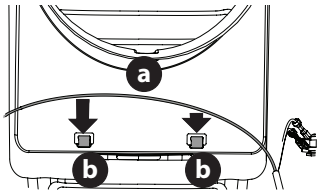

Fig. 12
- Secure the headlight harness (a) into the two guides (b) on the front of the plenum (Fig. 12).